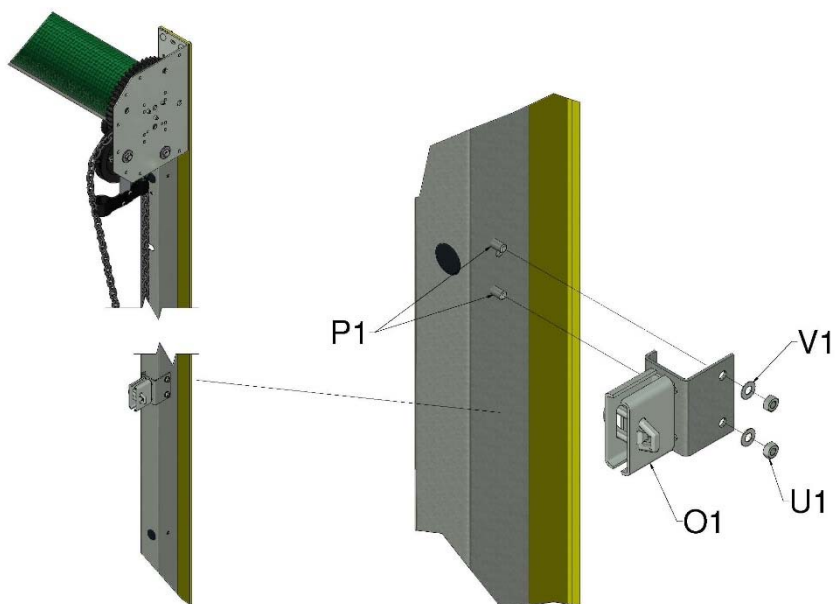

Figure 13, Attaching Chain Keep to Guide Rail
12. Install the chain keep and mounting bracket (O1) to the guide rail by drilling 2 No 8.5mm holes and using the M8x16 flanged bolts (P1). The height of the chain keep depends upon your installation (Figure 13) but is typically 1.5m high.